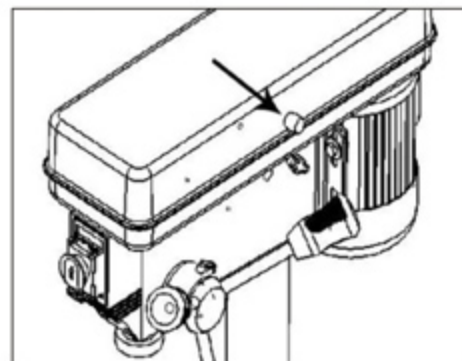

Figure 10
8. Install Knob And Screw Of Upper Pulley Cover. See Figure 10